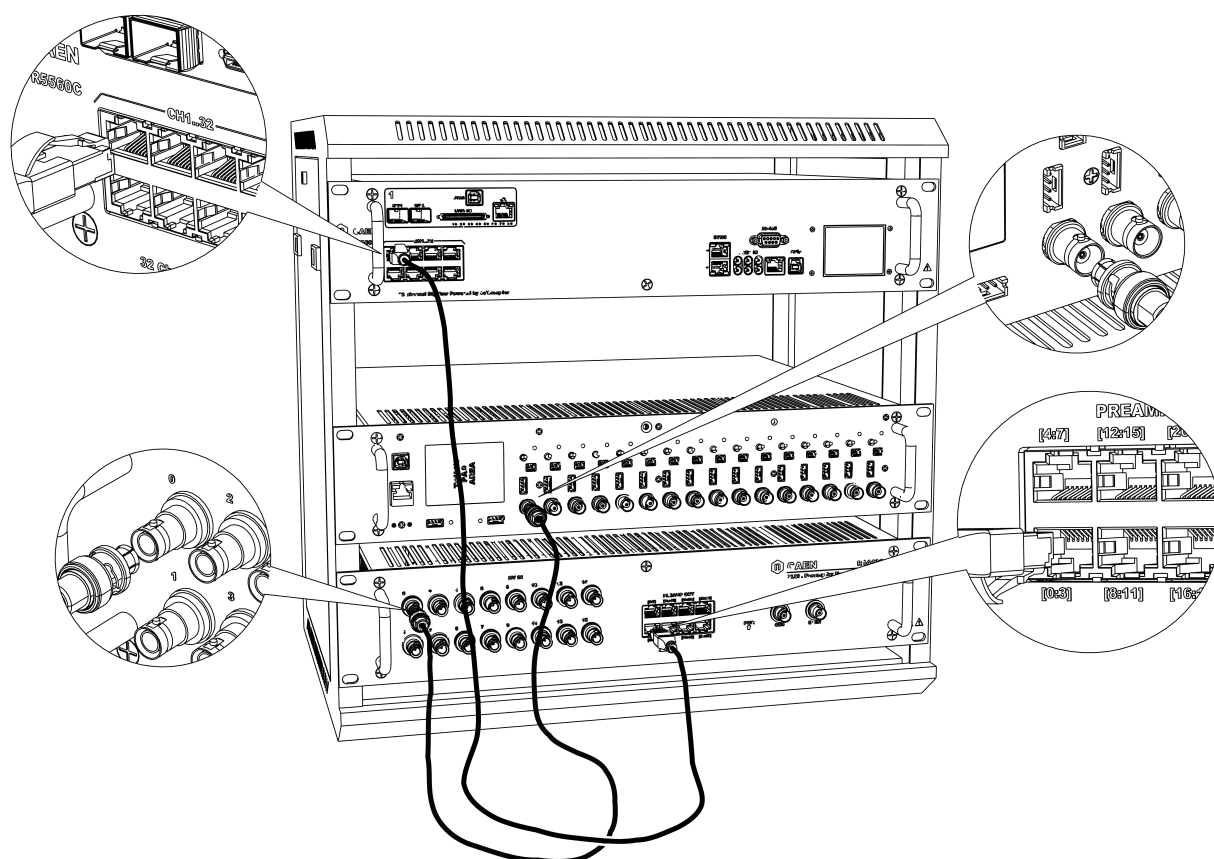

Fig. 2.4: NBrick front cables connection.
Take care to avoid placing the R5560C and the R1443C too close to each other. The recommended configuration is to position the R8033DP between the R5560C and R1443C, maintaining a slight distance between the preamplifier and the other two units (Fig. 2.4).
6. Use SHV cables to connect the HV output channels of the R8033DP to the HV IN channels of the R1443C on the front panel (Fig. 2.4).
8. Use Ethernet cables to connect the R1443C preamplifier output channels to the CH1...32 Input channels of the R5560C (Fig. 2.4).